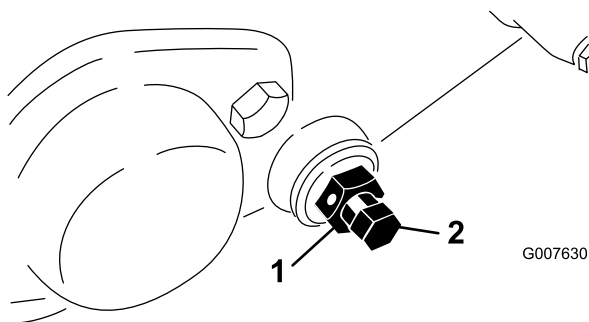

Figure 44
- On each side of the machine, loosen the jam nut securing the bedbar bolt (Figure 44).
- Remove each bedbar bolt allowing the bedbar to be pulled downward and removed from the machine. Save the 2 nylon and 2 stamped steel washers on each end of bedbar (Figure 44).